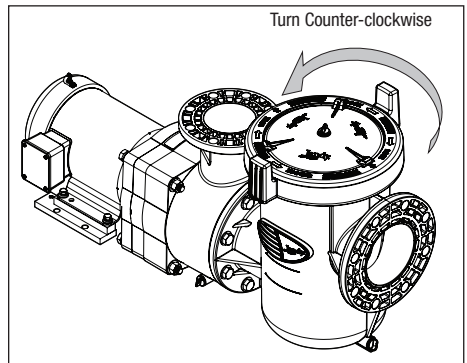

Figure 8. Disengage Lock Ring
5. Follow the markings on the locking ring. Using both handles, slowly turn the locking ring counterclockwise until the lid and locking ring disengage from the pump housing. See Figure 8.